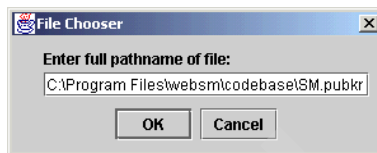

Figure 7-23 File Chooser dialog box
6. If you select the “Enable secure communication” check box the first time, you are prompted to specify the public key ring file path name as in Figure 7-23.